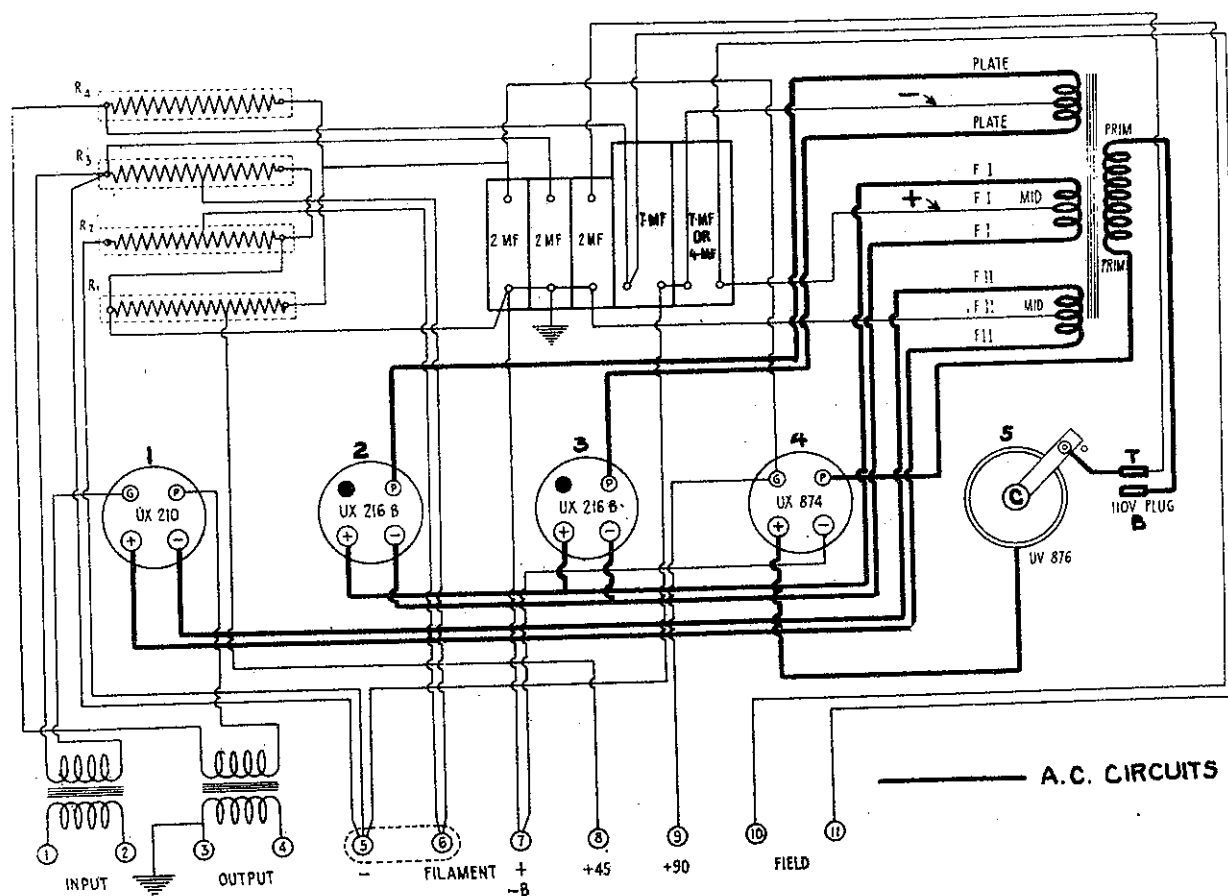
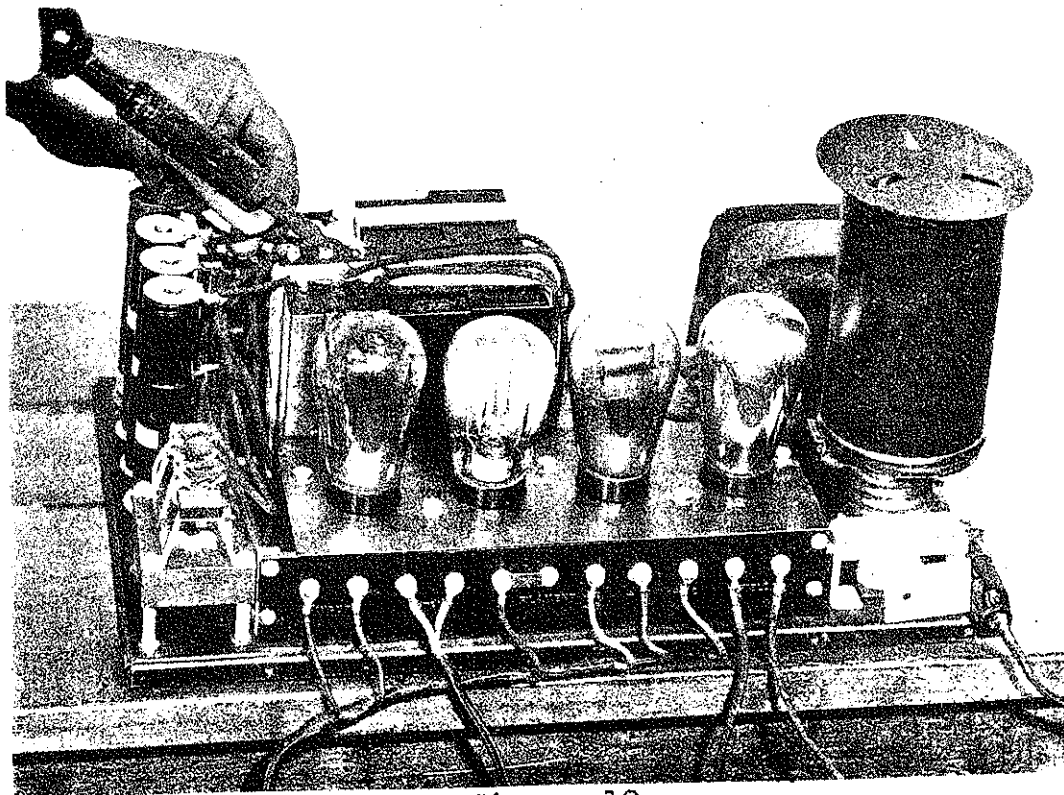

Figure 10
Figure 12
a good tube. The fourth tube from the left, a UX-874, should show a violet or pink glow. If it fails to show this characteristic glow and the three preceeding tubes are functioning replace the UX-874 with a perfect tube. If it fails to glow check the house lighting line voltage. Test the ballast tube, the UV-876 or UV-886 tube, and the 2 mfd. condenser next to the resistance units. See diagram Figure 10. If the voltage reads between 105-125 volts replace the UV-876, or UV-886. If any of the other tubes are found defective, or the condenser short circuited, replace with perfect units. If the UX-874 intermittently flashes when the branch telephone cord is disconnected from the receiver the tube should be replaced with a good one.
- (1) A reversed input plug from the alternating current supply source.
- (2) The 2 mfd. condenser located next to the 7 mfd. condenser, Figure 10, short circuited.
- (3) The laminations of the transformer may be loose.
- (4) Power line interference will also cause hum. This can be ascertained by removing the loop or antenna from the set and then noticing if the hum ceases.
- (1) Test Resistance unit R4, Figure 10, for an open; this is indicated by the plate becoming white hot.
- (2) The 2 mfd. condenser, Figure 10, located next to the resistance units may be short circuited.
- (3) The UX-874 may have developed a short circuit. Replace any of these units found defective.
- (1) The 7 mfd. condenser located between the 7, or 4 mfd., and 2 mfd. condenser. Figure 10.
- (2) The 7 mfd. condenser in extreme right hand unit Figure 10.
- (3) Check for a short circuit in the power transformer, replacing all the defective units.
- (1) Faulty or poor input from receiver.
- (2) The 2 mfd. condenser located next to the 7 mfd. condenser, Figure 10.
- (3) The movable coil on the cone may be making electrical contact with the pot magnet producing a short circuit. If so the cone must be replaced.
- (4) Defective UX-210
- (5) Leads of movable coil broken away from cone thus producing a rattle. Shellac them fast.
- (6) The cone may be out of alignment.
If any of the three 2 mfd. condensers, Figure 10, are leaking, distortion will result. The failure of these condensers is generally accompanied by a loss of filament voltage in the R.P.A. tubes. The defective condenser can be located by disconnecting all cable connections at the R.P.A. terminal board. Remove the metal case and replace all cable connections. Disconnect one of the 2 mfd. condensers, Figure 12, operate the set and note
- (1) The 2 mfd. condenser located next to the resistance units is short circuited. See Figure 10.
- (2) The pot magnet coil may be open.
- (3) The 90 volt connection may be short circuited or open.
- (4) A defective UX-216-B.
- (5) A " UX-874.
- (1) The 2 mfd. condenser next to the resistance units short circuited. See Figure 10.
- (2) Defective UX-874 tube or socket.
- (3) " UX-216-B " " "
- (4) Short circuited or open "B" voltage connections.
Remove the short circuiting wire and disconnect all the cable connections from the terminal board shown in Figure 12.
Refer to Figures 10 and 10A as each test is made. Figure 10 is the schematic wiring diagram of the unit, while 10A is a picture diagram of the terminal board.